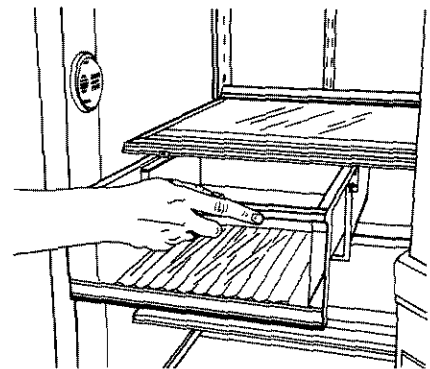

FIGURE 57
3. Pull drawer out the rest of the way. See Figure 57.